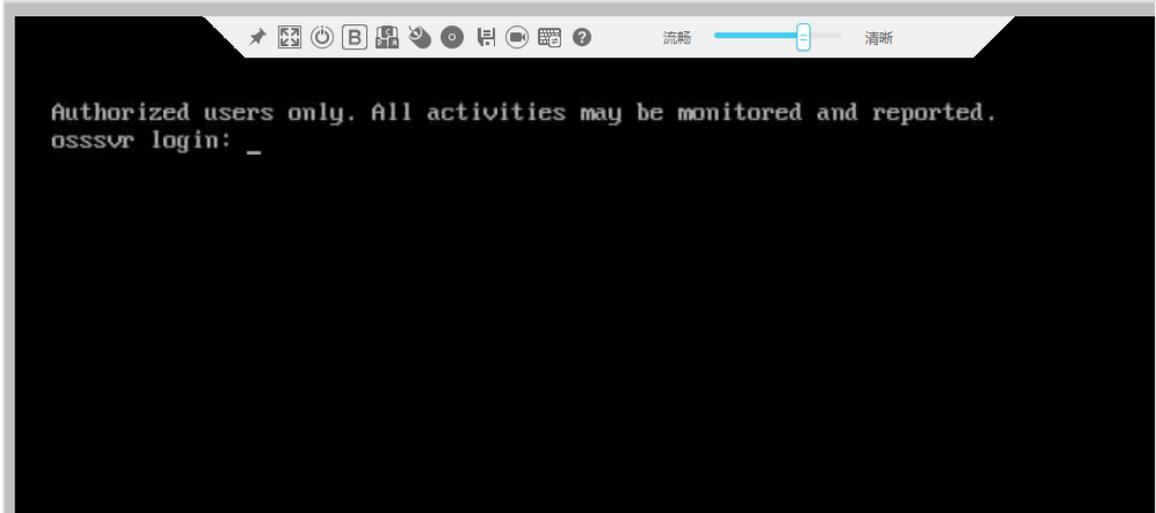

Figure 4-13 Installing the OS
Step 4 If the information shown in Figure 4-13 is displayed during the installation, the OS is successfully installed.